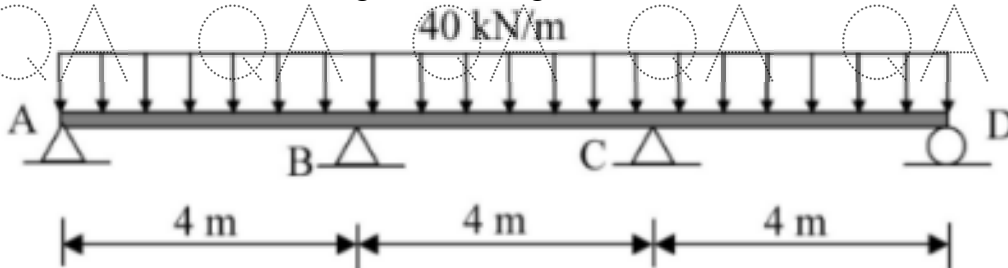

Figure 5
8. Analyze the continuous beam ABCD shown in Figure 5 below by flexibility matrix method and draw the bending moment diagram. M_B and M_C are redundant. [10]